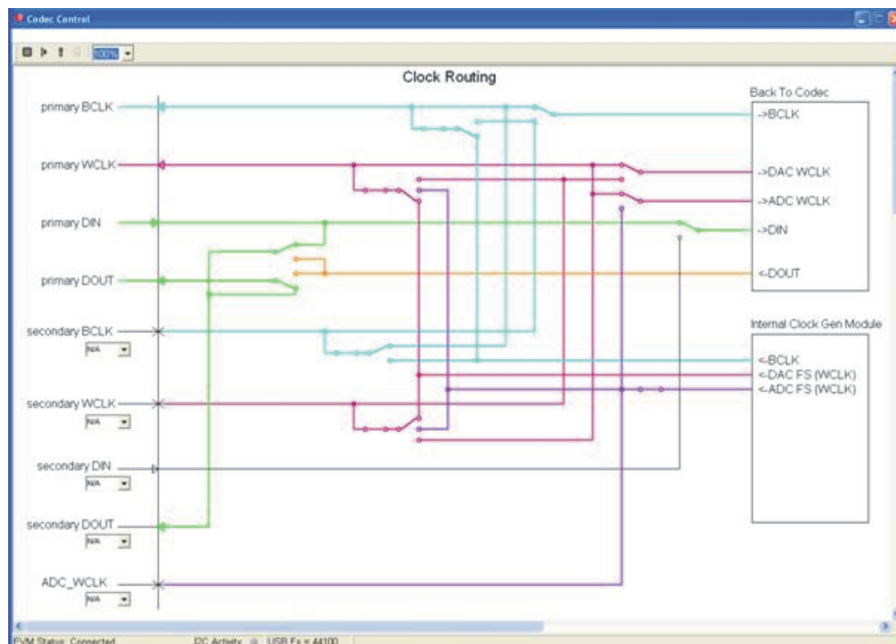

Figure 6. Clock and Digital Signal Routing
- To trace the routing of a specific signal, follow its color. The example in Figure 6 shows that the BCLK signal from the internal clock generation module is routed to the primary I2C™ BCLK pin (which is configured as an output), to the secondary I2S BCLK signal (which is not connected to a pin) and to the BCLK input of the codec (ADC and DAC within the TLV320AIC3111).
To open the digital configuration dialog, navigate to the clock and digital signal routing diagram (see Figure 6) and click on the “Internal Clock Gen Module” active object.